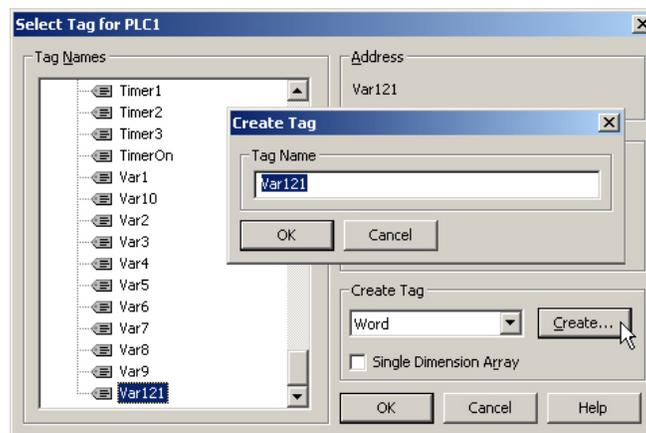

Fig. 10
- Enter the tag name as it is in the PLC. Fig. 10